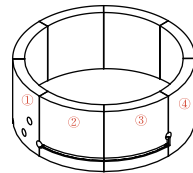

Fig. 1
2) Take the control unit foam wall, with the three hole cut outs, and align with the three holes in the bottom half of the liner. Continue to add foam walls until you complete the spa. Ensure the three holes of the control unit foam wall don't move out of place. Note the position of foam pieces 2, 3 & 4, with the hose cut outs, that go to the right of the control unit foam as shown in Fig. 1 above.